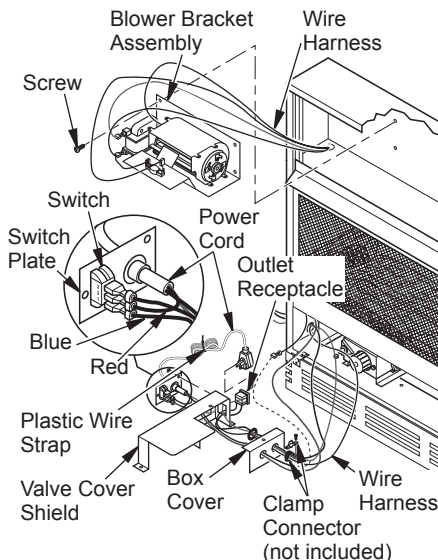

Figure 17 - Installing Blower Bracket Assembly
5. Plug power cord to the outlet receptacle (not provided) as shown in Figure 17. Wind the extra cable in power cord and tie it up with the plastic wire strap (see Figure 17). Set the cable bundle between the burner bracket and outer casing, away from the burner.